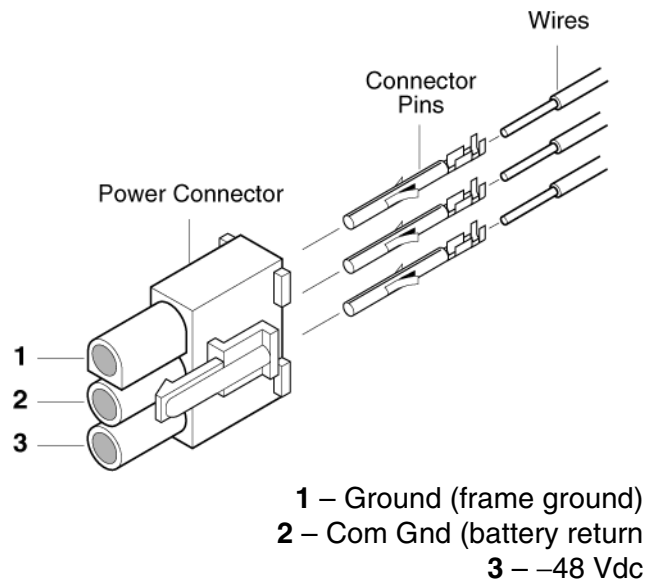

Figure C4-10. Subrack -48 Vdc power connector
- c. Position the power connector so that it matches the drawing in Figure C4-10 (the locking mechanism should face you). Take the Ground wire and grasp the wire insulation behind the connector pin. Push this wire into plug position “1” of the power connector until the connector pin snaps into place.